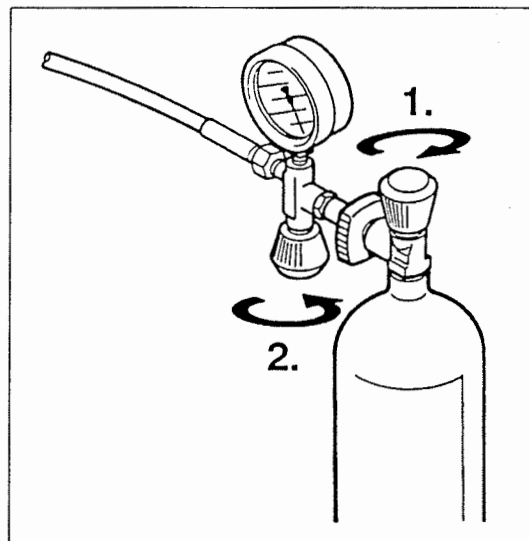

Fig. 27 Removing air bottle
- Upon reaching final bottle pressure close bottle valve first (1, Fig. 27), then filling valve by returning handle to closed position (2).